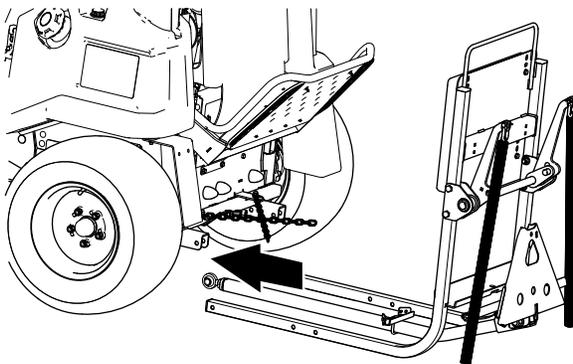

**Figure 10**
- Connect the bottom of the long rear-lift chains to the hanger tube at the bottom of the lift frame using flange-head bolts (3/8 x 1-3/4 inches), washers (2/5 inch), and flange locknuts (3/8 inches) as shown in Figure 10.